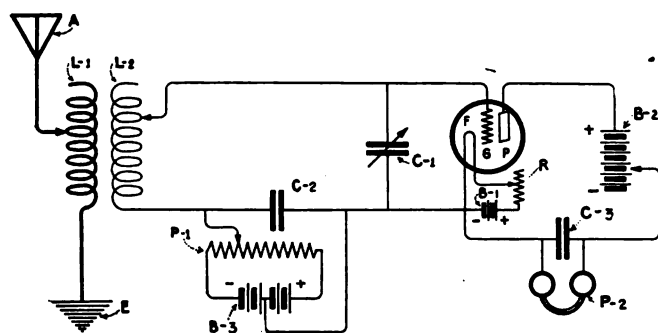

Figure 176
(1) When the operator adjusts the circuit of figure 176 for the maximum strength of signals, he works the tube at either point A or point B on the characteristic curve of figure 174.
(2) When the receiving transformer is tuned to the distant transmitter, an alternating E.M.F. is impressed between the grid G and the filament F. If the potential of the grid in respect to the filament F is adjusted by the battery B-3 to point A on the characteristic curve, the negative half of the incoming cycle will reduce the plate current and the positive half will increase it. But as the curve indicates the increase will exceed the decrease and therefore what amounts to a rectified current will flow in the plate circuit which charges the condenser C-3. Condenser C-3 then probably discharges in one direction through the head telephone P-2.
(3) It is clear from the curve that if the potential of the grid in respect to the filament is regulated to point C, then the negative half of the incoming oscillation will cause a large decrease in the plate current and the positive half a slight increase. In either way the telephone diaphragm will be impulsed once for each group of incoming oscillations.
As in the circuit of figure 176, the radio frequency currents flowing in the grid circuit are repeated in the plate circuit, but these currents are not heard in the head telephone. They are put to account, however, in the regenerative circuits to be described further on.